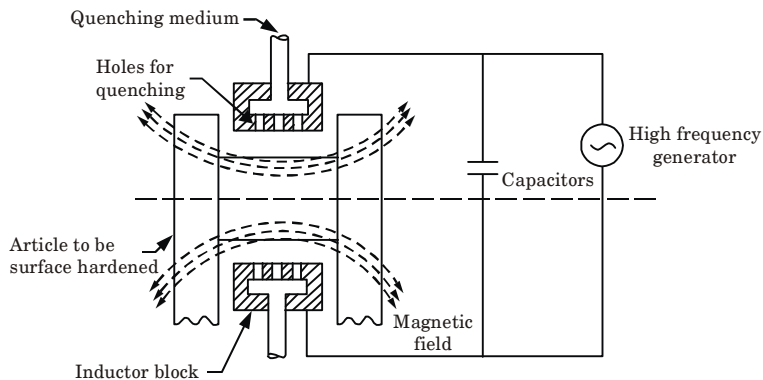

Fig. 4.19.1. Arrangement for high-frequency induction heating.
3. The work to be hardened is placed in the inductor in such a way that it does not touch the inductor as shown in (Fig. 4.19.1).